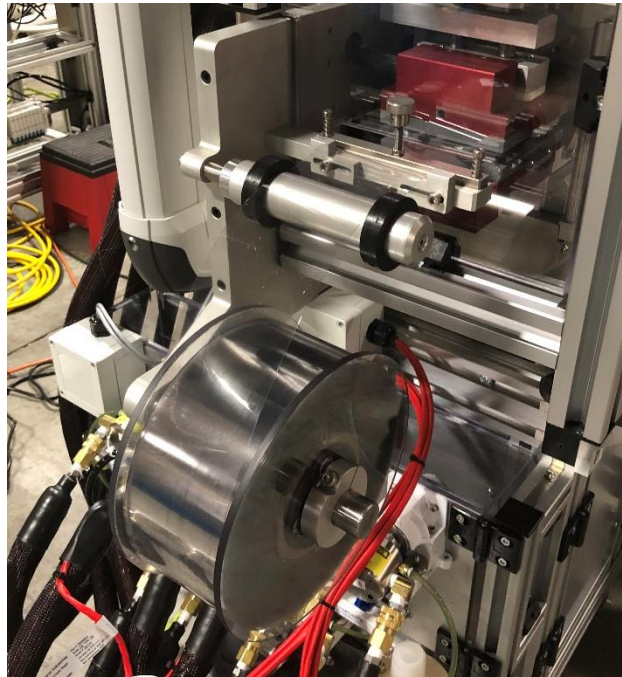

Figure 3
- Place outer spool and push into place film can be unwound in either direction inwards/outwards depending on orientation of sealing layer. (*Figure 3*)